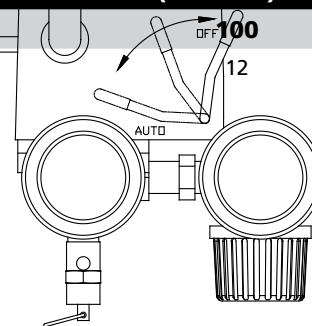

Figure 6 - Auto/Off Switch
- **Pressure Switch** - Auto/Off Switch (Figure 6)